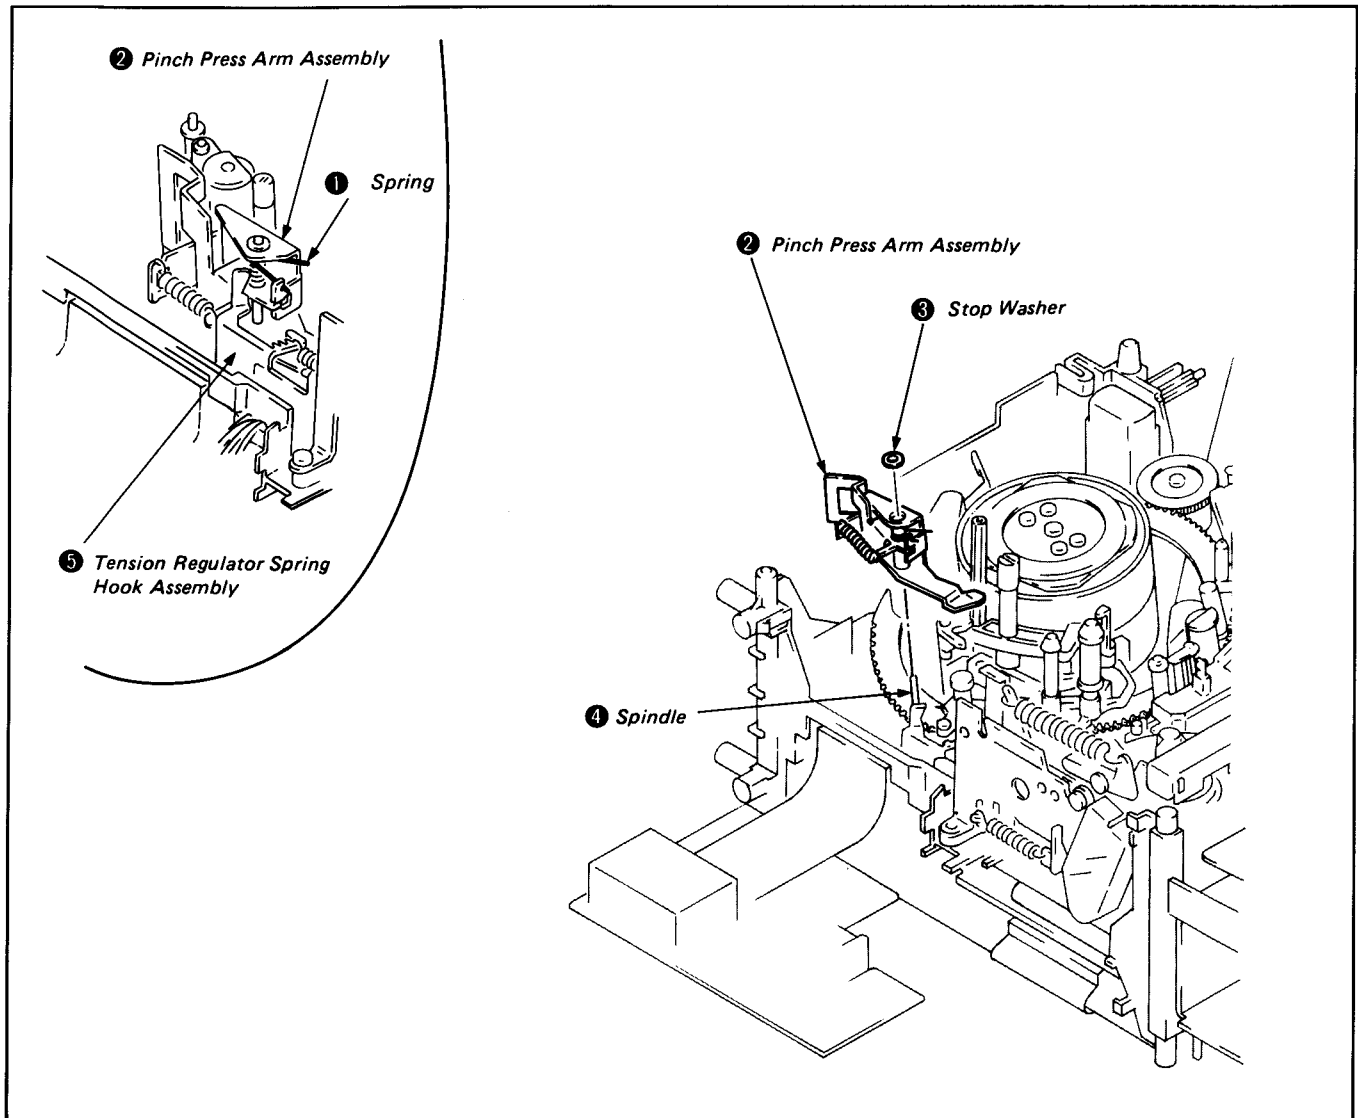

Fig. 8-9.
- 1) Hook the spring ① on the pinch press arm assembly ②.
- 2) Remove the stop washer ③ and pinch press arm assembly ②. (See Fig. 8-9.)
- 1) Oil half a drop of oil on the spindle ④.
- 2) Remount the pinch press arm assembly ② and stop washer ③.
- 3) Rehook the spring ① on the tension regulator spring hook assembly ⑤. (See Fig. 8-9.)